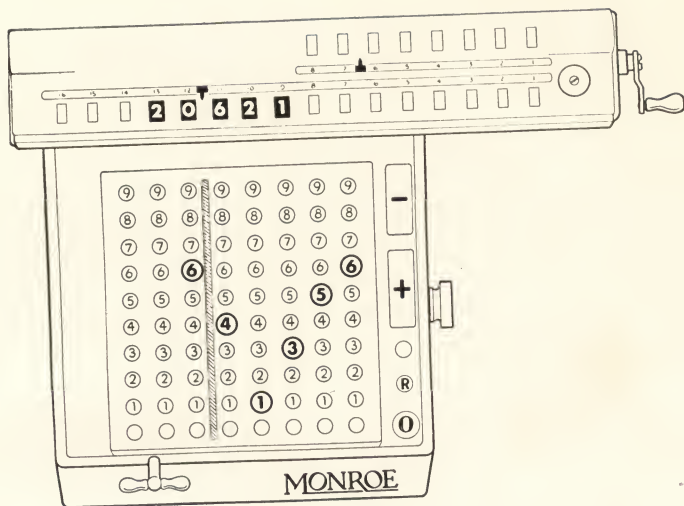

Figure 11
*Step 4*—Clear the keyboard and upper dials as previously described by means of the master clear key and minus bar. Set 6.41356 on the keyboard and with carriage in "7" position start the division as indicated in Figure 11.